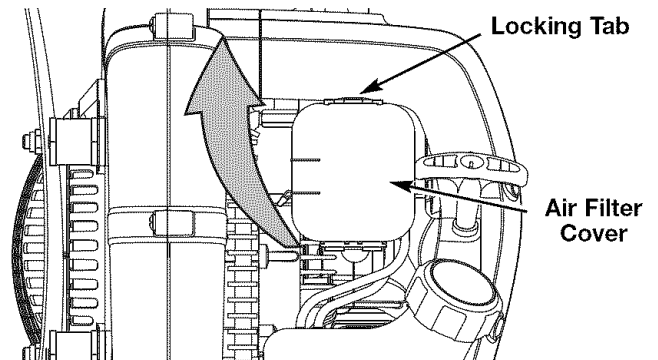

Fig. 23
8. Swing the cover up until the tab on the air filter backplate snaps into place in the slot on the air filter cover (Fig. 23).